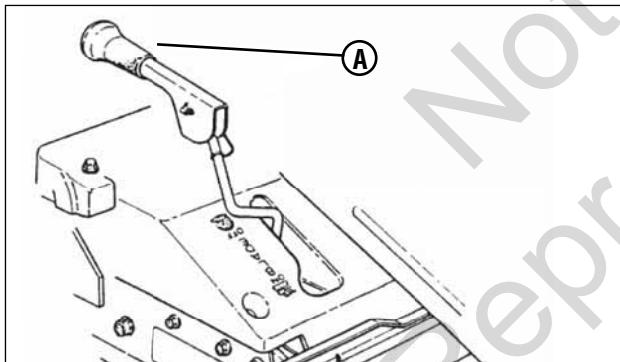

Figure 4: Blade lever (in ‘Off’ position)
2. Make certain the Blade Lever (**A**, Figure 4) is in the “OFF” position.
2. Make certain the Blade Lever (A, Figure 4) is in the "OFF" position.